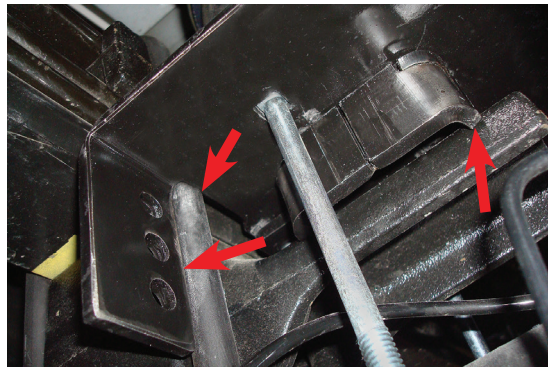

Fig. 16
1. With the vehicle supported by safety stands, drop the axle or raise the body so that the assemblies can be put into position in between the axle and frame. Set the driver's (left) side and passenger's (right) side assemblies into position so that the lower bracket cup rests on the jounce bumper strike plate. Push the lower bracket so that it is flush against the leaf spring stack. The flanges on the lower bracket main plate should lock on the sides of the U-bolt (Fig. 16).